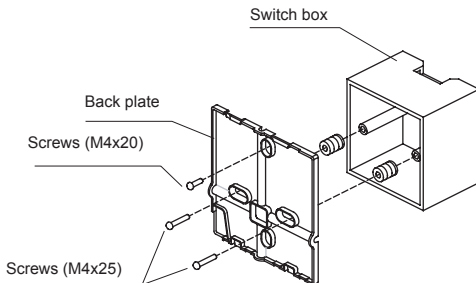

Fig 3-6
- For flush-mounting, fasten the back plate on the switch box with 2 screws (M4x25) and fasten it on the wall with 1 screw (M4x20). (Fig.3-6)